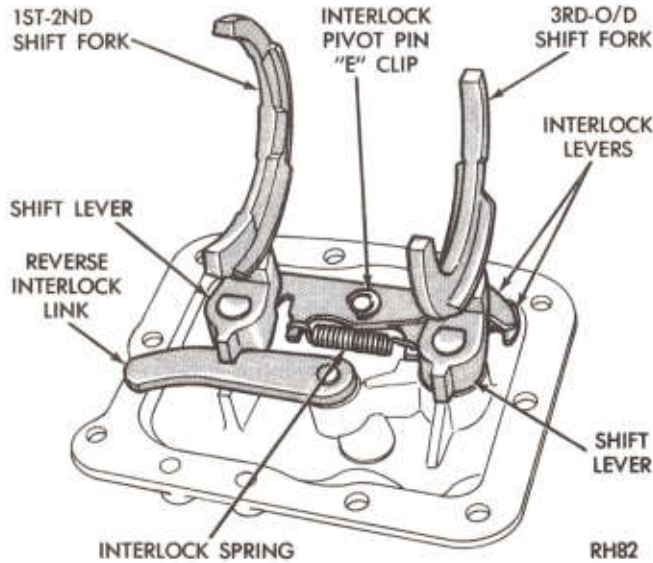

Fig. 14—Gearshift Housing Assembly
(4) Pull gearshift lever shafts out of housing.
(5) Remove O-ring retainers and O-rings from housing.
(6) Remove E-ring from interlock lever pivot pin and remove interlock levers and spring from housing (Fig. 14).